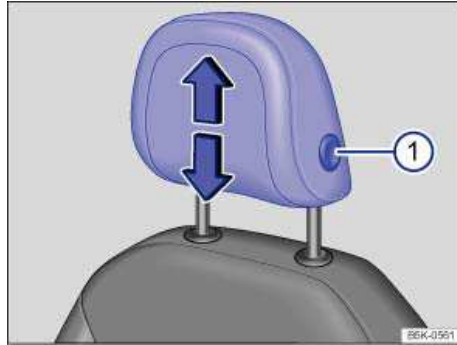
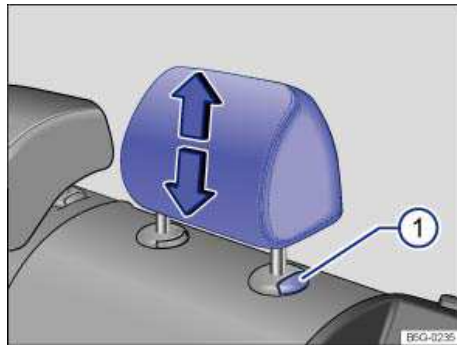

Fig. 37 Adjusting the front head restraints.
Fig. 38 Adjusting the rear head restraints.
- Pull the head restraint up in the direction of the arrow, or push it down while pressing the button ⇒ fig. 37 (1) or ⇒ fig. 38 (1) ⇒ .